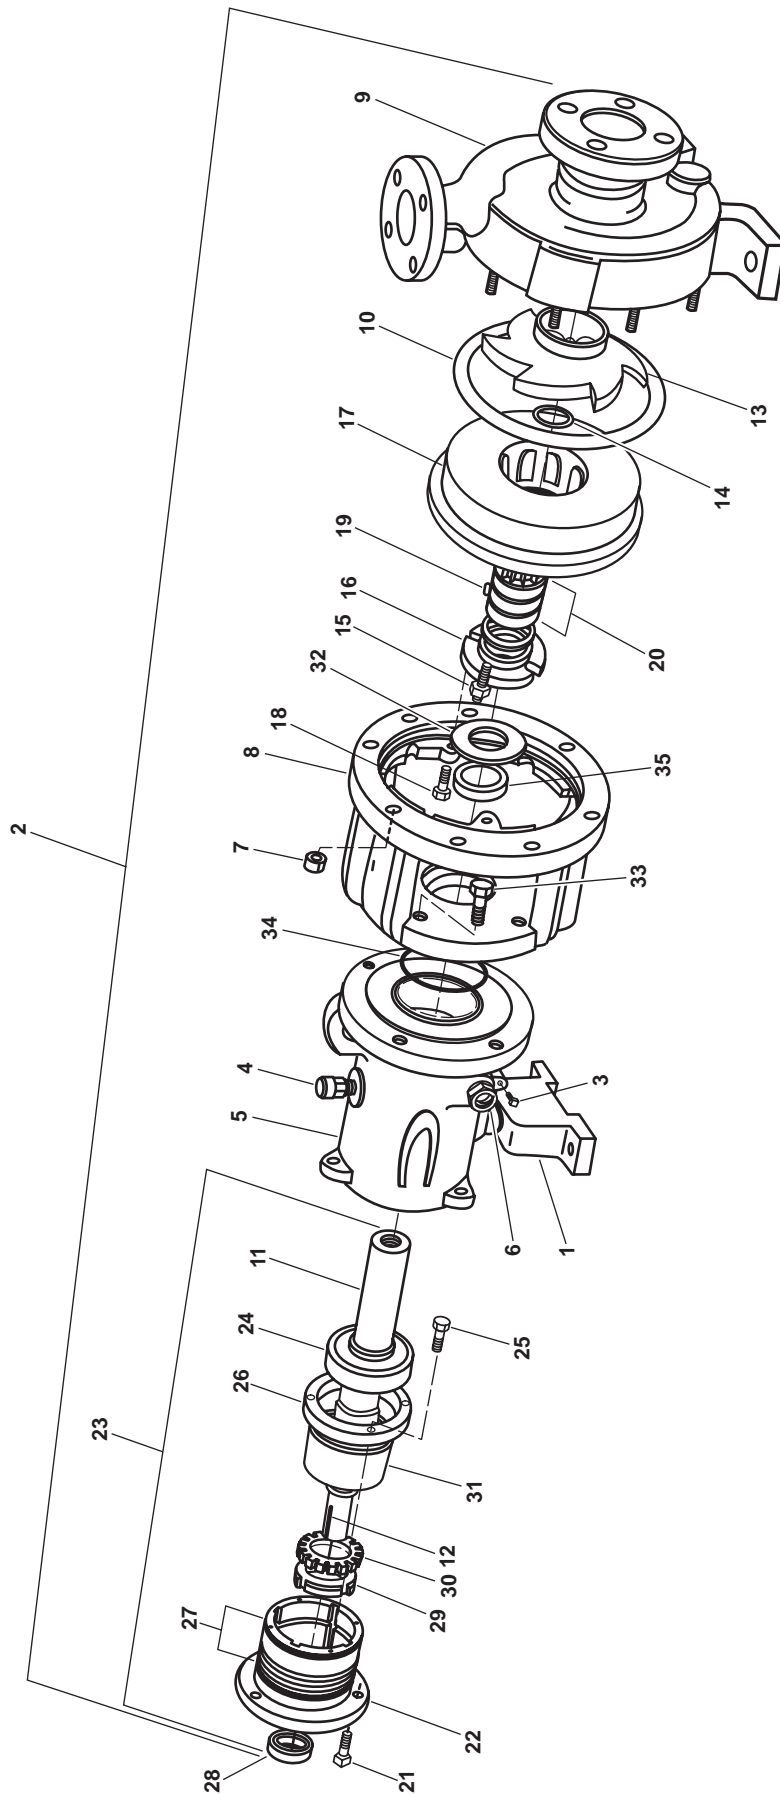
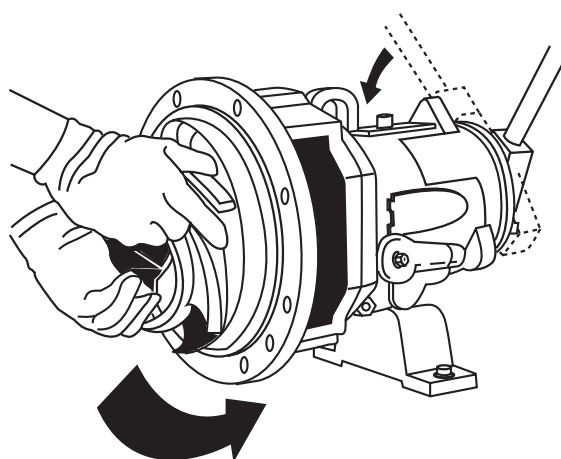

Figure 1. Diesel Engine-Driven Firefighting Pump Assembly
Figure 2. Impeller Removal
1. Mount the bearing housing foot (figure 1, item 1) to a bench to support the diesel engine-driven firefighting pump (figure 1, item 2) during disassembly.
2. Place a suitable drain pan under the diesel engine-driven firefighting pump's drain plug (figure 1, item 3). Remove the drain plug and allow the oil to drain into the suitable drain pan.
3. Remove the vent plug (figure 1, item 4) from the bearing housing (figure 1, item 5).
4. Remove the sight glass (figure 1, item 6) from the bearing housing (figure 1, item 5).
- Remove the eight casing nuts (figure 1, item 7) from the bearing housing adapter (figure 1, item 8).
- Remove the pump casing (figure 1, item 9) from the bearing housing adapter (figure 1, item 8).
- Remove the rear cover gasket (figure 1, item 10) from the bearing housing adapter (figure 1, item 8).
- Install the impeller wrench from the Durco tool kit on the shaft (figure 1, item 11).
- Secure the impeller wrench to the shaft (figure 1, item 11) by inserting a key in the shaft keyway (figure 1, item 12).
- Turn the impeller (figure 1, item 13) in the clockwise direction and move the impeller wrench in the 11:00 o'clock position. Quickly spin the impeller in the counterclockwise direction causing the impeller wrench to impact the hard surfaces of the workbench. Refer to figure 2.
11. Repeat step 10 until the impeller (figure 1, item 13) is loosened.
12. Remove the impeller wrench from the shaft (figure 1, item 11).
13. Remove the impeller (figure 1, item 13) from the shaft (figure 1, item 11).
14. Remove the impeller gasket (figure 1, item 14) from the impeller (figure 1, item 13). Discard the impeller gasket.
15. Install the brass shaft guide tool from the Durco tool kit on the impeller end of the shaft (figure 1, item 11).
16. Remove the four gland nuts (figure 1, item 15) from the mechanical seal gland (figure 1, item 16). Slide the mechanical seal gland away from the rear cover plate (figure 1, item 17).
17. Remove the two rear cover cap screws (figure 1, item 18) from the rear cover plate (figure 1, item 17). Install two guide bolts.
18. Remove the rear cover plate (figure 1, item 17) from the shaft (figure 1, item 11).
19. Loosen the setscrew (figure 1, item 19) on the mechanical seal (packing preformed) (figure 1, item 20). Remove the mechanical seal and mechanical seal gland (figure 1, item 16) from the shaft (figure 1, item 11).
20. Remove the brass shaft guide tool from the shaft (figure 1, item 11).
21. Loosen the three setscrews (figure 1, item 21) on the bearing carrier (figure 1, item 22). Using a spanner wrench, remove the bearing carrier assembly (figure 1, item 23) from the bearing housing (figure 1, item 5).
22. Using an arbor press, remove the inboard bearing (figure 1, item 24) from the bearing carrier assembly (figure 1, item 23).
23. Remove the four cap screws (figure 1, item 25) from the bearing housing clamp ring (figure 1, item 26).
24. Remove the bearing housing clamp ring (figure 1, item 26) from the bearing carrier (figure 1, item 22) and the bearing carrier assembly (figure 1, item 23).
25. Remove the bearing carrier (figure 1, item 22) from the bearing carrier assembly (figure 1, item 23).